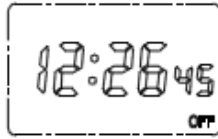

Figure 11
4.2.2.4 When the date after the completion of installation, press "MD" button in the F8 off location or in any case to press the "MD" button for 3 seconds, the system enters the clock, as shown in figure 11.